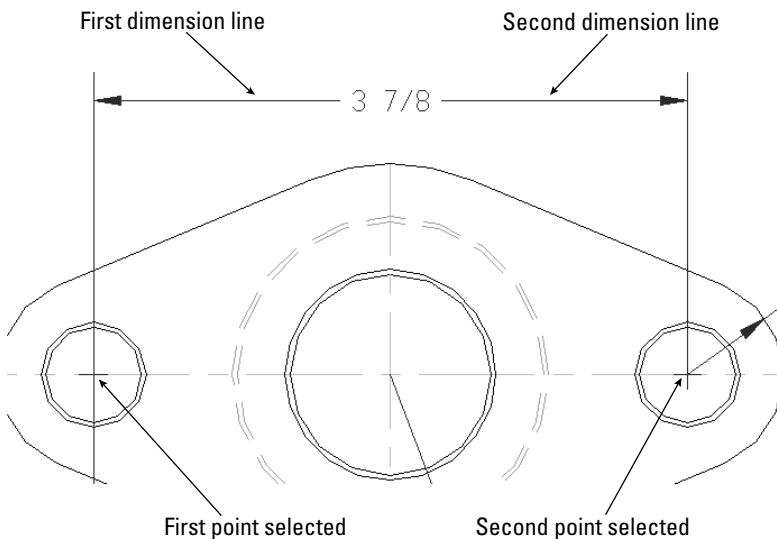

Figure 15-5: A typical mechanical dimension with text splitting two dimension lines.
In some dimension styles, the dimension text splits the dimension line into two parts, as shown in Figure 15-5. This creates two dimension lines. You can suppress — that is, turn off — the first or second dimension line (or both dimension lines) by checking the appropriate box (or boxes). The first line is nearest where you specified the first extension-line origin. (If you selected an object instead of specifying two extension-line origins, you may not be able to predict which dimension line is the first and which is the second. Experiment.) You would usually suppress dimension lines when they interfere with other dimensions or with objects in your drawing.
- ♦ **Centered:** Centers the text in the dimension line, breaking the dimension line into two. This is typical for mechanical drafting. You can see an example in Figure 15-5.